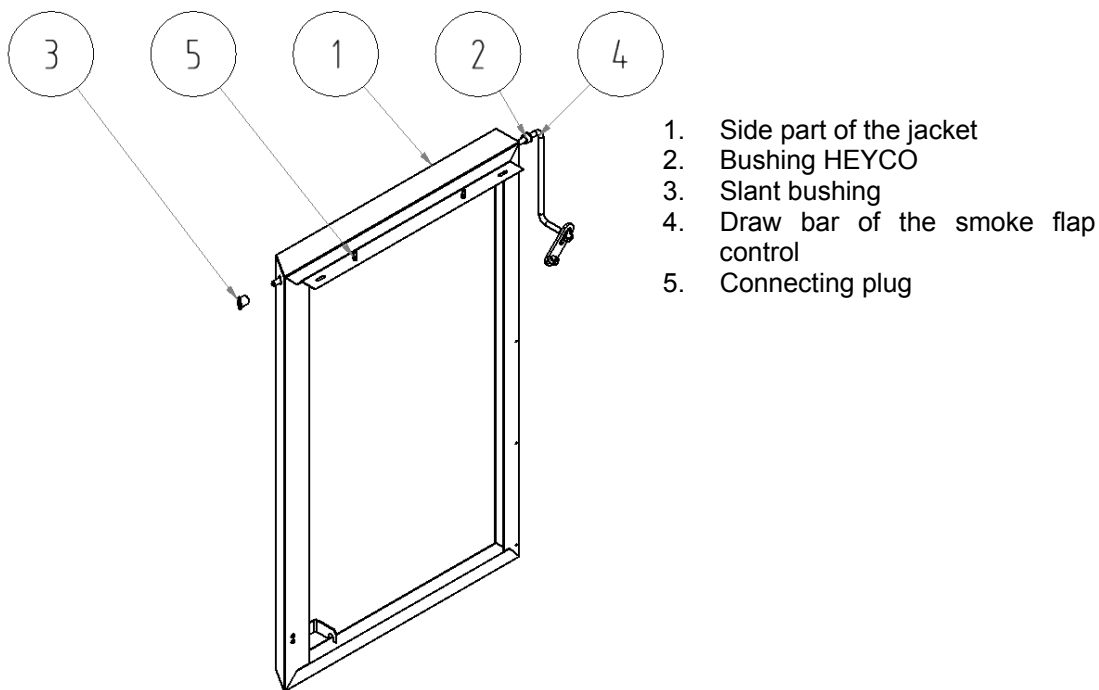

Fig. No. 13 Left side part of the jacket
5. Mount two connecting plugs (5), into the left side part of the jacket (1), insert the bushings (2, 3), then insert the draw bar of the smoke flap control (4) and the insulation. Put the jacket on the lower anchor bolts and connect the upper part with consoles 1 and 2 by means of two screws M5 x12 and two washers 5,3 – see Fig. no. 13.